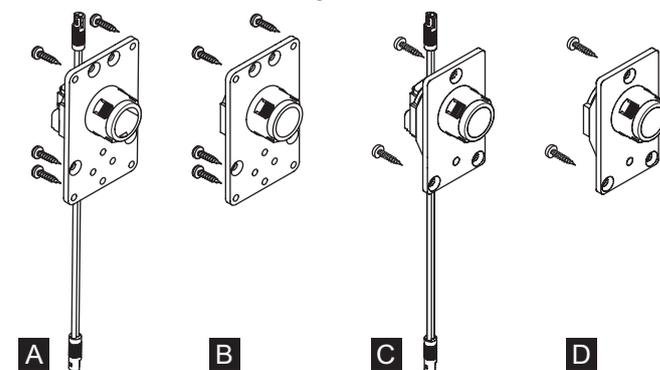

Fig. 2: Version of the various holder sets
- Mono 20 P/L holder set with power cable (Fig. 2/A)
- Mono 20 P/L holder set, non-electrified (Fig. 2/B)
- Mono 20 P/L light holder set with power cable (Fig. 2/C)
- Mono 20 P/L light holder set, non-electrified (Fig. 2/D)